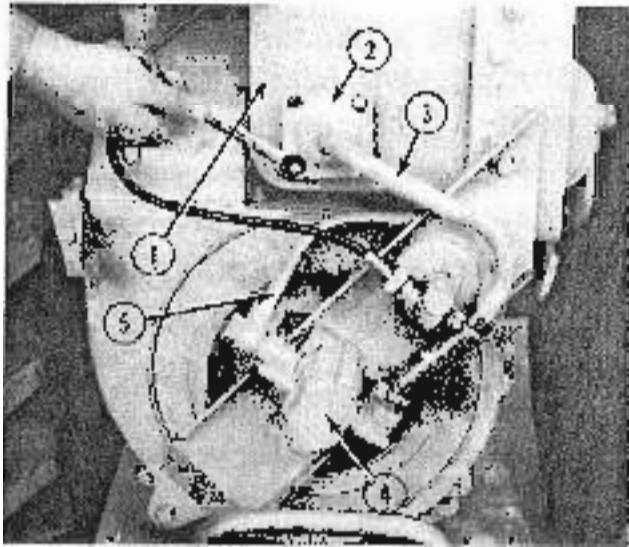

FIG. 1
Figure 1 shows a typical pump installation on Ruggeneri-powered tractors. This same mount and drive set-up is used on the single-cylinder Lombardini powered tractors also. The major elements of the system are identified for your convenience.
- (1, Fig. 1) Reservoir
- (2, Fig. 1) Filter Cap
- (3, Fig. 1) Suction Line
- (4, Fig. 1) Pump Assembly
- (5, Fig. 1) Pressure Line